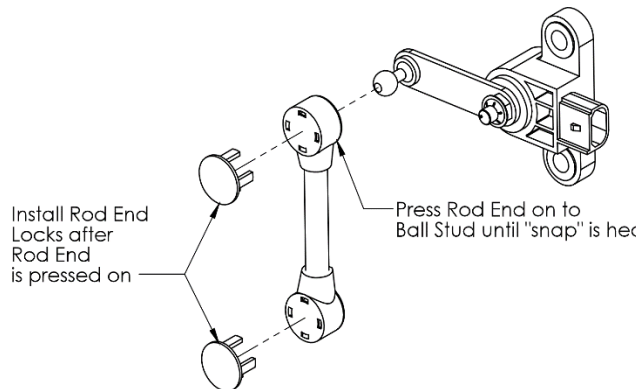
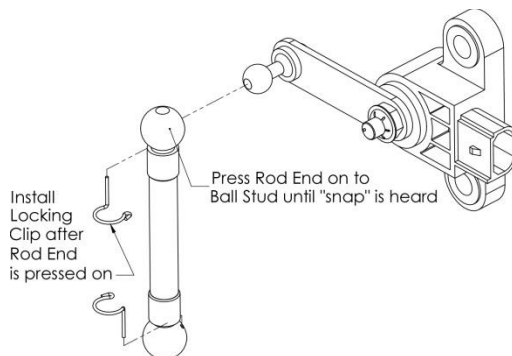

Figure 38. Plastic Linkage End Installation
Figure 39. Metal Linkage End Installation.
7. Snap the Linkage Assembly to the Steering Linkage Mount and to the ball stud on the sensor arm. Refer to **Figure 38 or Figure 39** for detail of linkage.